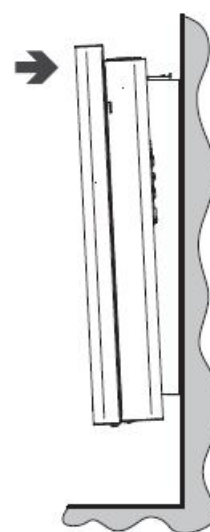

FIGURE 5
3. Push the unit to secure it. (FIGURE 5)